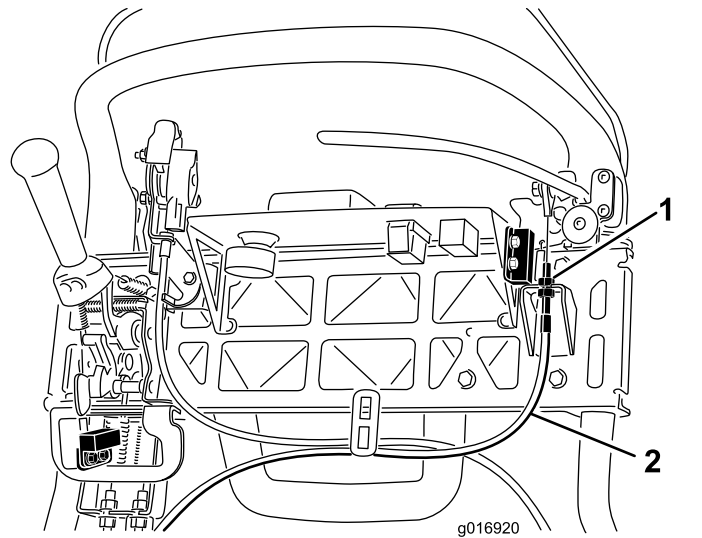

Figure 44
3. To increase the cable tension, loosen the upper cable jam nut and tighten the lower cable jam nut (Figure 44) until a force of 156 N (35 lb) applied to the brake lever handle is required to release the parking-brake latch. Do not over adjust it or the brake band may drag.